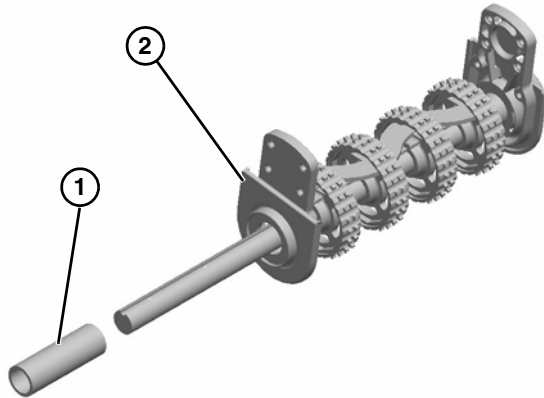

Figure 32
- Slide off tube spacer (Figure 32, item 1) and tail through plate (Figure 32, item 2).